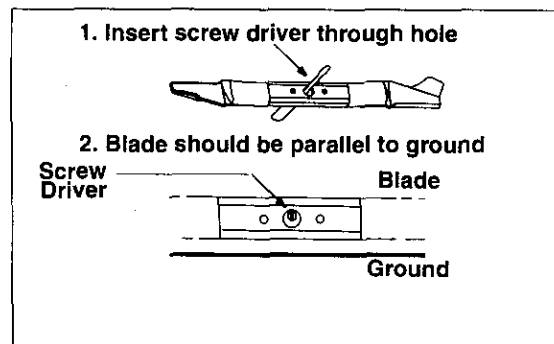

Figure 15
- Test the blade by balancing it on a round shaft screwdriver or a blade balancer. See Figure 15.